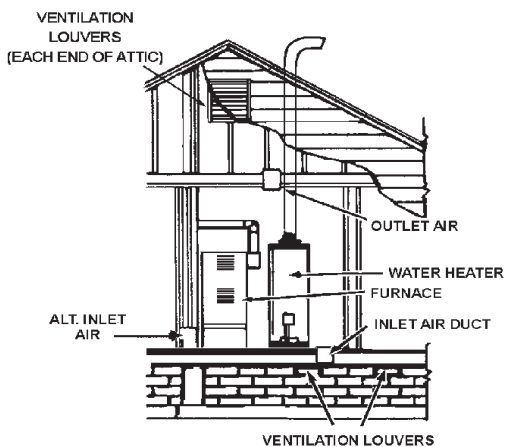

FIGURE 7.
**B. ALL AIR FROM OUTDOORS:** (See Figures 7, 8 and 9)
1. When directly communicating with the outdoors, each opening shall have a minimum free area of 1 square inch per 4,000 Btu per hour (5.5 cm2/kW) of total input rating of all equipment in the enclosure, see Figure 7.